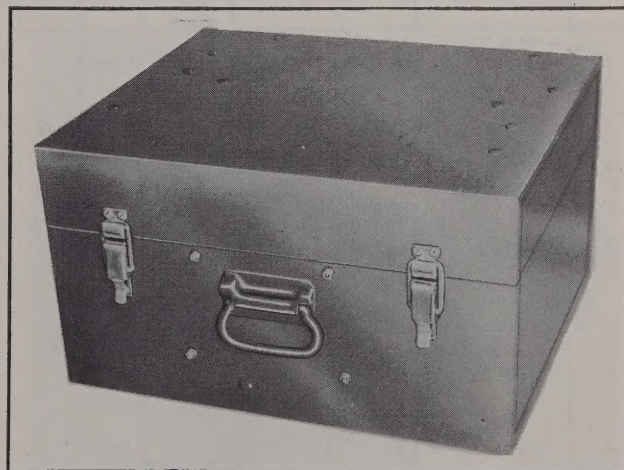

Figure 1-2. Chest CY-146/ARM-1
a. **CHEST CY-146/ARM-1.**—The chest, containing all equipment of the radio test set, is made of steel. A folding-type handle is provided on the front of the chest so that it may be carried conveniently. (See fig. 1-2.)